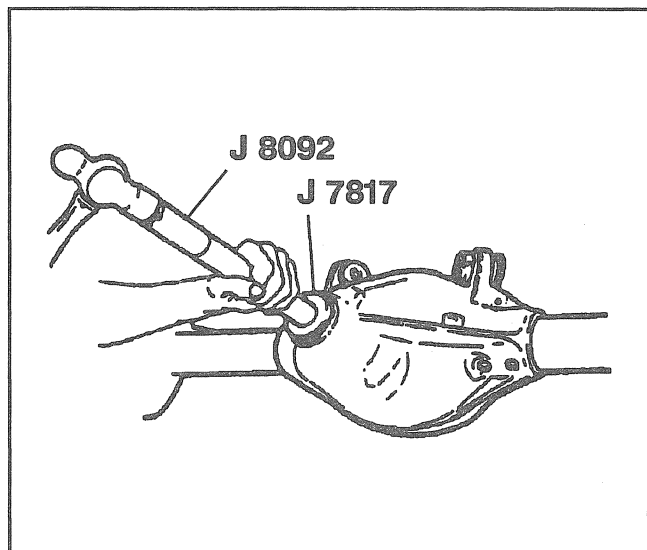

Figure 10—Installing the Front Pinion Bearing Cup
1. Front pinion bearing cup (39) using J 8611-01 and J 8092 (Figure 10).